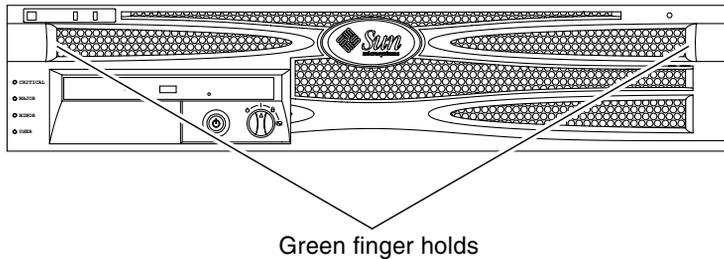

FIGURE 3-1 Finger Holds on the Bezel
The bezel assembly includes the bezel, the server status indicator board, the alarm LEDs, and the hinges (FIGURE 3-1). The assembly is replaced as a single unit.
3. **Grip the bezel at the two finger holds and rotate it down to its open position (FIGURE 3-1).**
2. **Grip the bezel at the two finger holds and rotate it down to its open position** (FIGURE 3-1).
2. **Open the front bezel** (FIGURE 3-1).